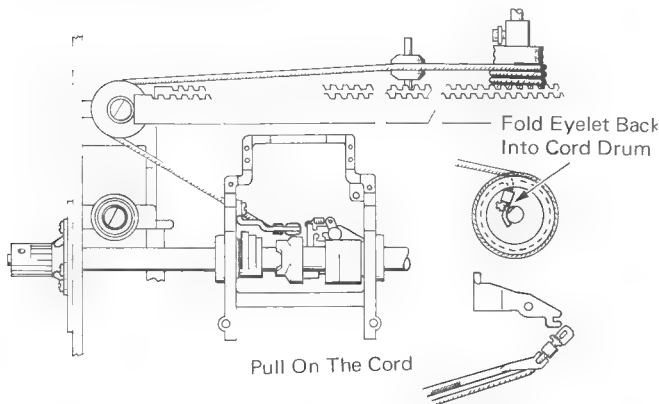

Figure 1
6. With the carrier to the right, connect the cord to the carrier return cord drum, position cord to the left over the idler pulley, around the left rear corner pulley and connect to the carrier using scissor clamps or the pusher end of a springhook (Figure 1).